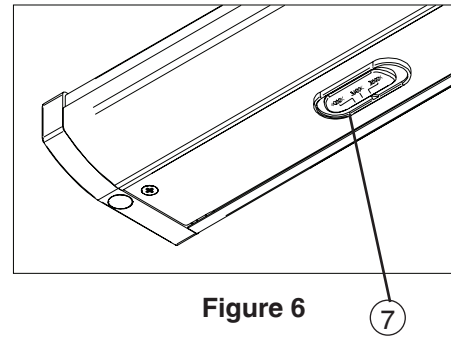

Figure 6
1. Locate CCT Switch- See Fig 6. (Default color temperature setting is 3000K).
1. Ubique el interruptor del CCT. Ver Fig 6 (Lac de temperatura de color predeterminada es 3000K).